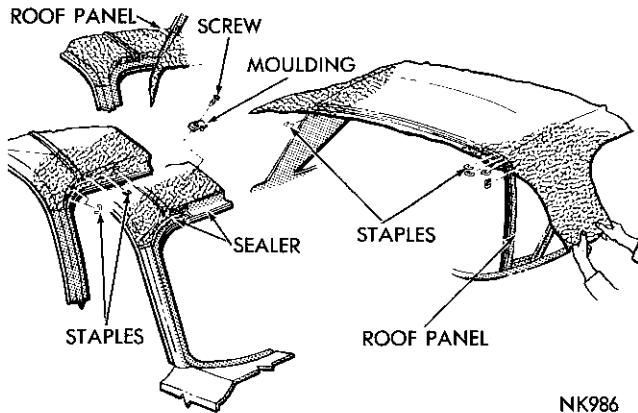

Fig. 174—Stapling Cover at Window Reveals
(10) Starting at the top center, secure the cover to the windshield reveal using staples spaced 1½ inches apart (maximum) or tacks spaced ½ inch apart (Fig. 174).
(11) Starting at the top center, secure the cover to the rear window reveal using staples spaced 1½ inch
apart (maximum) or tacks spaced $\frac{1}{2}$ inch apart (Fig. 174).
(12) Trim the fabric at the base of the windshield and rear window reveals and at the upper "A" post ends.
(13) Apply a bead of sealer to the edge of the cover and blend upward to form a seal over the staples and the edge of the cover. Extend the sealer across the trimmed edge of the cover on the "A" post (Fig. 174).
(14) Locate the upper moulding screw hole on the "A" post and install the moulding.